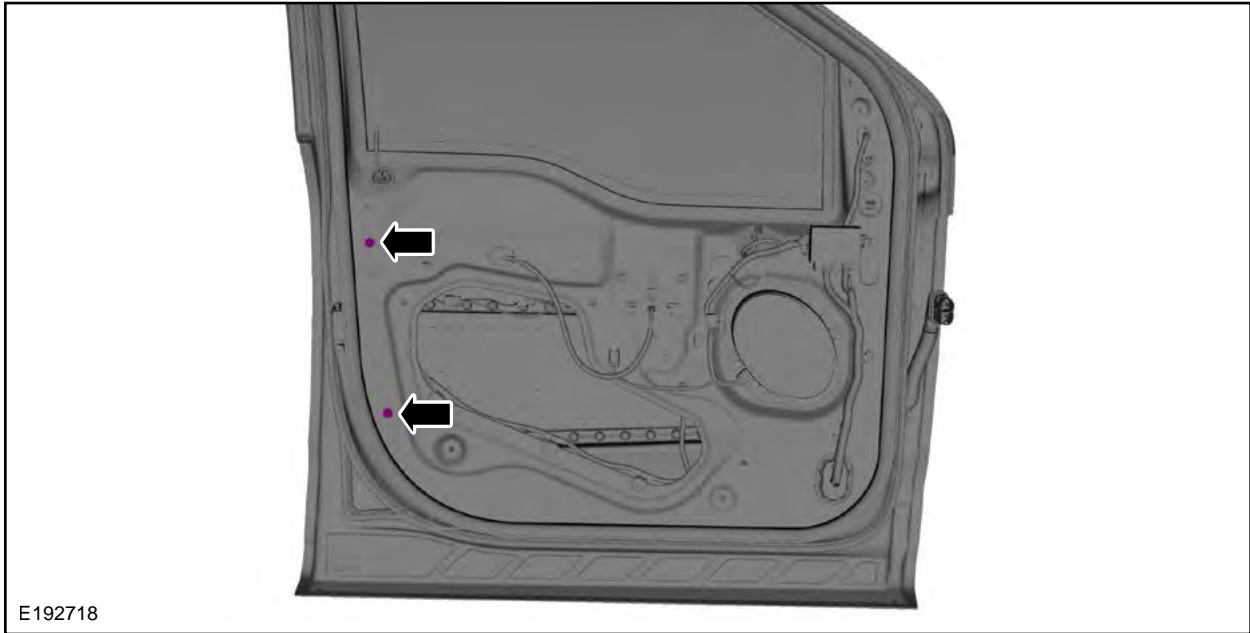

FIGURE 6
8. Loosen but do not remove the two door glass run bolts. See Figure 6.
13. Tighten the two door glass run bolts. See Figure 6.